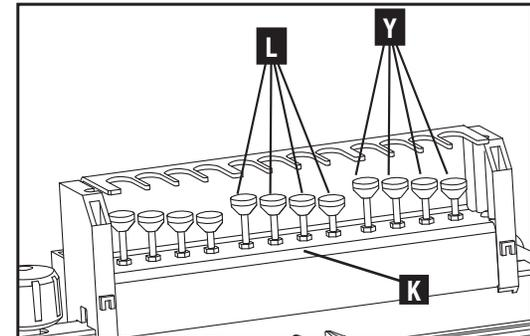

Fig. H9
- * If using the standard half blind/sliding tapered dovetail on the 16" OMNIJIG®, set the depth using the sliding tapered dovetail bit depth gauges at (L) Fig. H9. Pick which gauge (L) to use based on the corresponding router bit and template guide combination listed on the label at (K).
- * If using the half blind/sliding tapered dovetail template on the 24" OMNIJIG®, then use depth gauges at (Y). These are the user defined gauges and need to be set according to the instructions found in the appendix. Raise the router bit before setting router on bit depth gauge. Slowly lower the router bit onto the gauge. Depth of cut is set when bit barely touches the gauge.